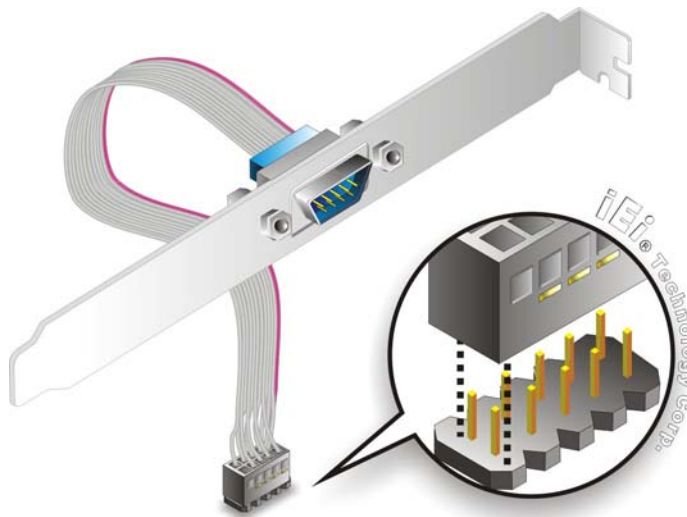

Figure 4-4: Single RS-232 Cable Installation
Step 2: Insert the cable connector. Insert the connector into the serial port box header. See **Figure 4-4**. A key on the front of the cable connectors ensures the connector can only be installed in one direction.